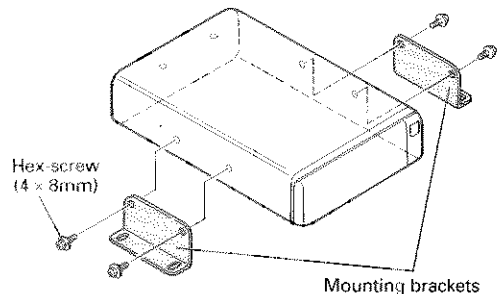

Fig. 1
1. Using the hex-screws (4 × 8 mm), fit the mounting brackets to the sides of the player so they face downward. (Fig. 1)